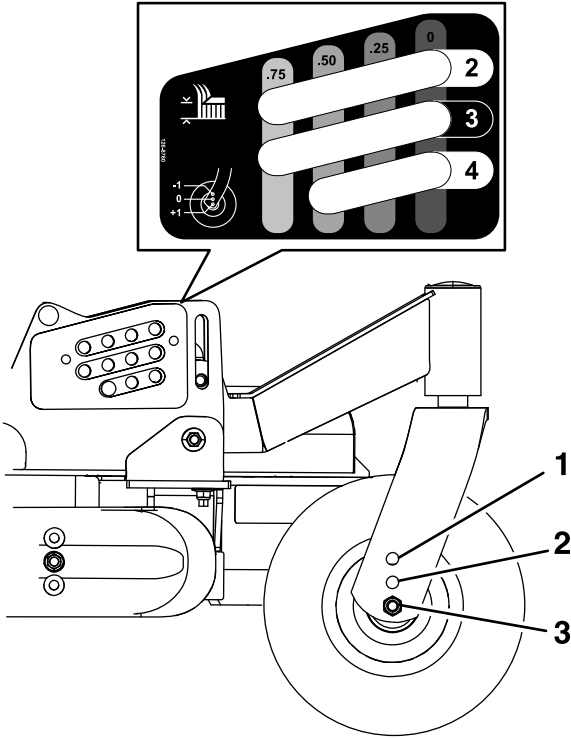

Figure 27
- Adjust the front and rear gauge wheels to the appropriate hole location (see the chart below and Figure 27) and install the mounting hardware.